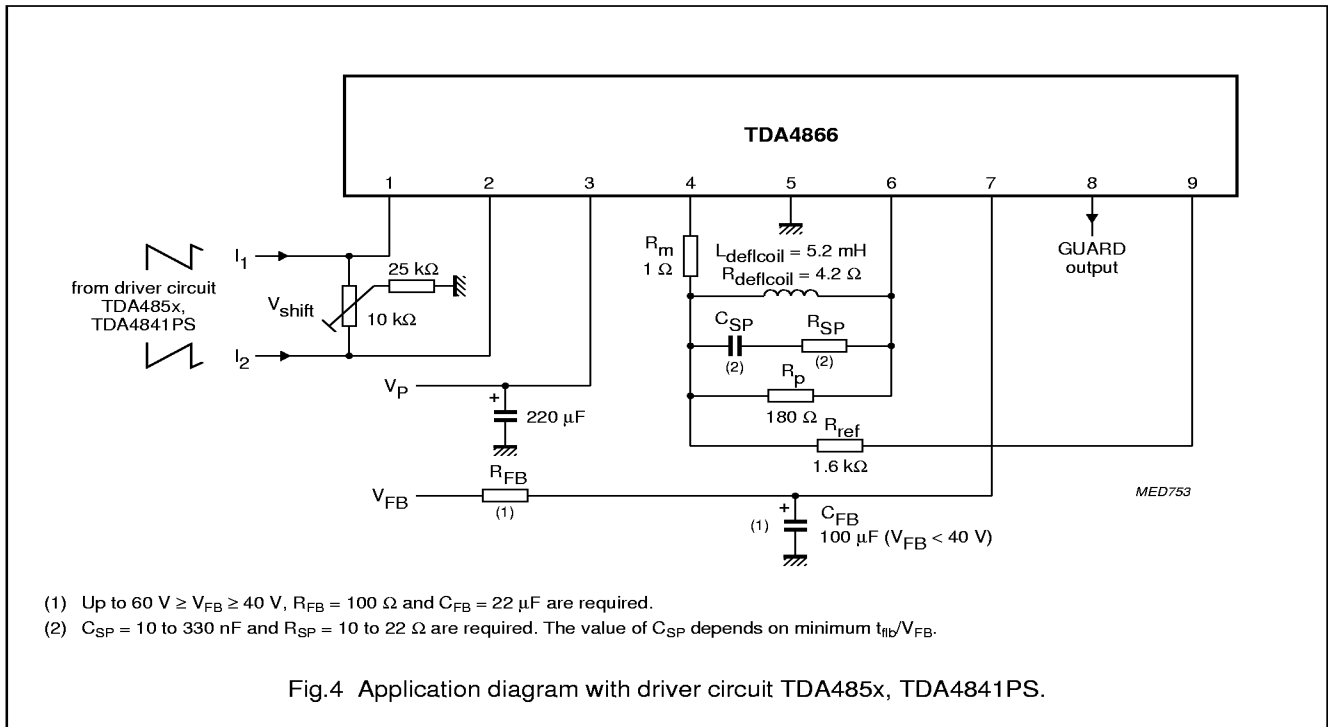

Fig.4 Application diagram with driver circuit TDA485x, TDA4841PS.
- Up to  $60 \text{ V} \geq V_{\text{FB}} \geq 40 \text{ V}$  a decoupling capacitor  $C_{\text{FB}} = 22 \mu\text{F}$  (between pins 7 and 5) and a resistor  $R_{\text{FB}} = 100 \Omega$  (between pin 7 and  $V_{\text{FB}}$ ) are required (see Fig.4).